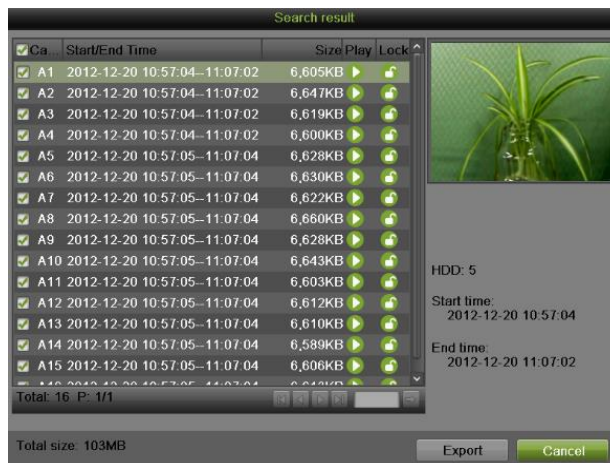

Figure 205 Search Result Interface
6. Click the Search button. A search result box will pop-up, as shown in **Figure 205**.